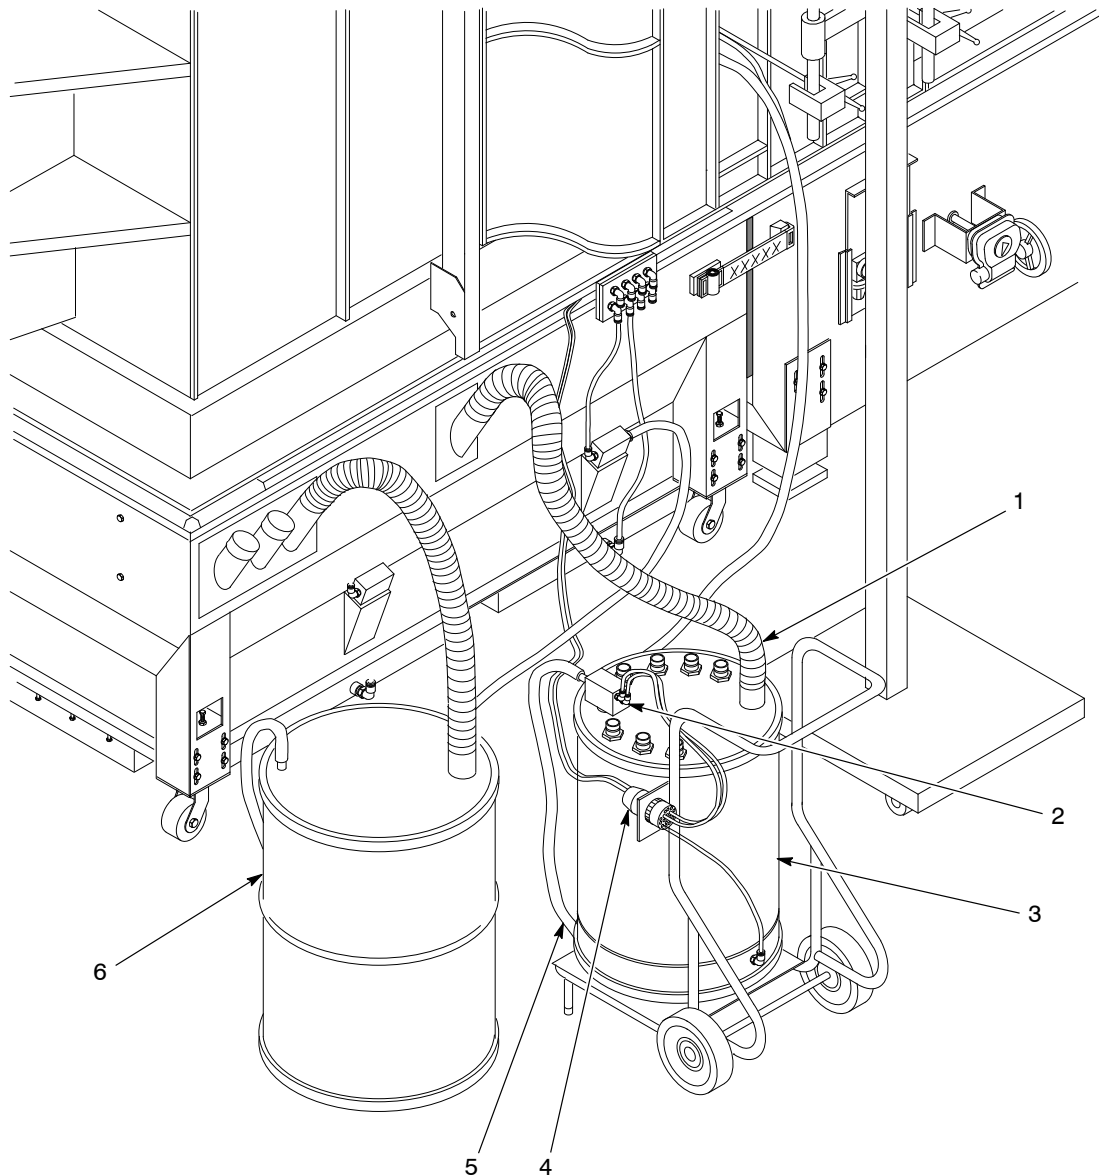

Figure 3-8 New Color Module with Portable Feed Hopper (Horizon 400 Shown)
3. See Figure 3-8. Position the portable feed hopper (3) so you can connect the feed hoses (5) from the powder pumps (2) to the spray guns.
4. Connect the 10-tube connectors (4) to the receptacles on the feed hopper.
5. Install a vent hose (1) between the feed hopper and a color-module vent stub.
6. Connect the transfer hoses to a scrap drum (6). Connect a vent hose from the scrap drum to a color-module vent stub.
8. Install new feed hoses (5) between the powder pumps and the spray guns, or use hoses that have already been used with the new color.